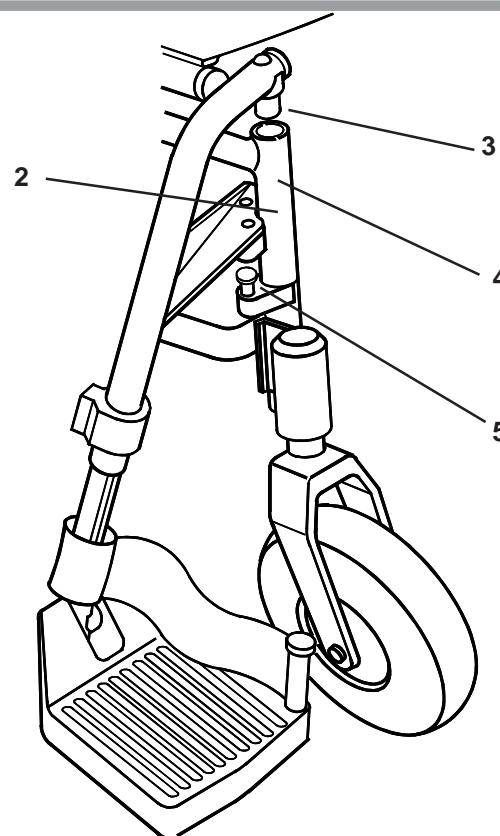

Fig. 18
To replace the footrest (Fig. 18), place the swingaway pivot saddle (3) into the receiver (4) on the frame (2) with the footrest facing outward from the frame. Rotate the footrest inward until it locks into place on the locking stud (5).